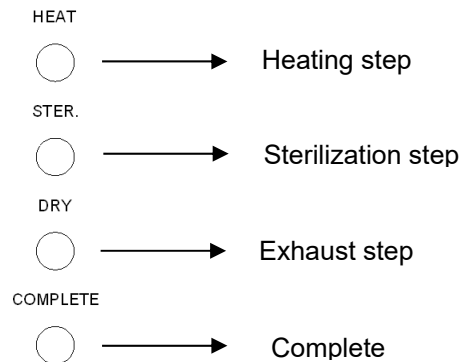

Figure 24
F.4 Turn the “Liquid Sterilization” switch to ON(I) position for liquid sterilization, see “5.2.3.3 Control Panel – Liquid Function (optional)” for reference.
F.5 Press the START Button. The current progress of the sterilization cycle is indicated on the Process Status Indicator. (Figure 24)